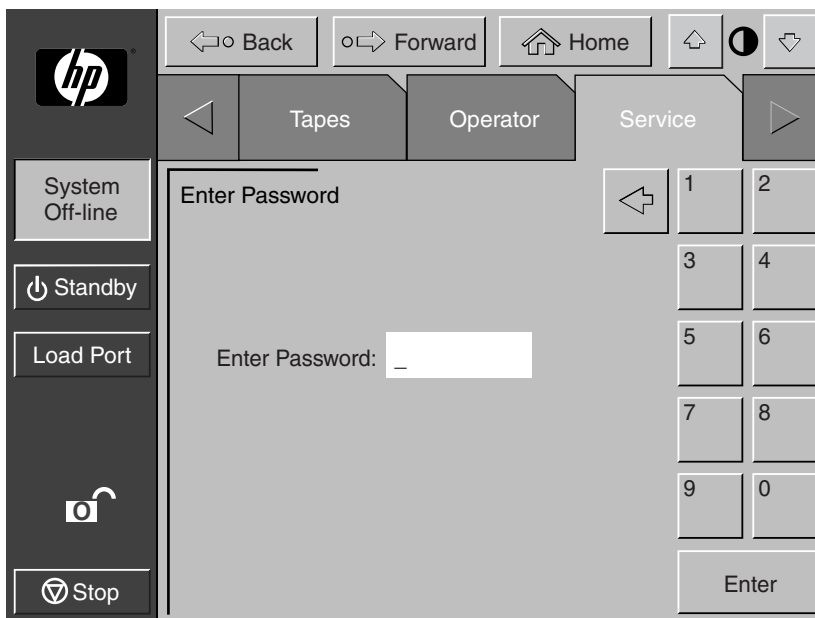

Figure 4-1: Password screen
1. Press the **Operator** tab. The control panel displays the password screen (see Figure 4-1).